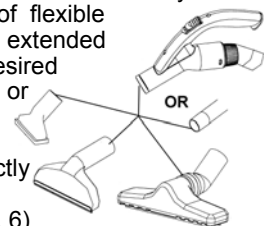

Fig. 6
8. Select and attach accessory to the other end of flexible hose. If an extended reach is desired attach one or more extension tubes directly to flexible hose. (Fig. 6)